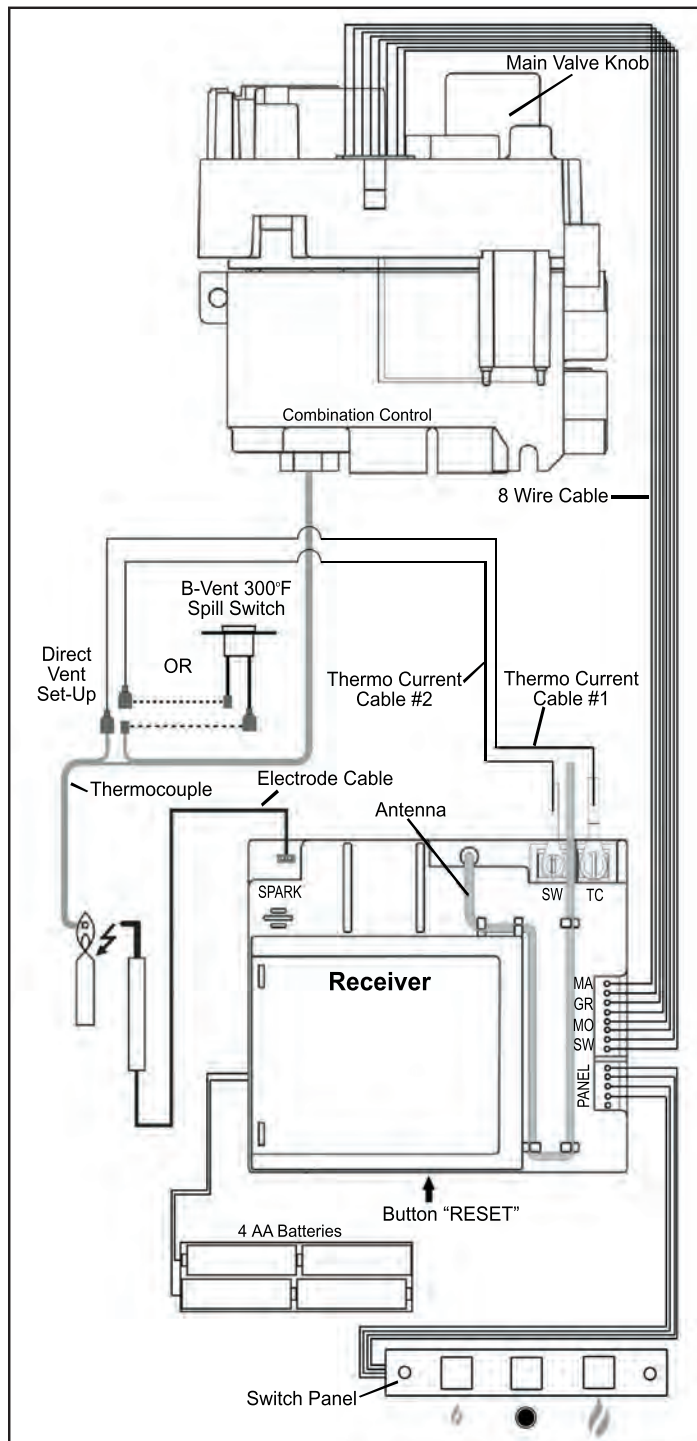

Figure 45: Wiring of a valve.
3. Ensure the wiring harness is assembled according to Figure 45 & 47 and is attached to the fan.